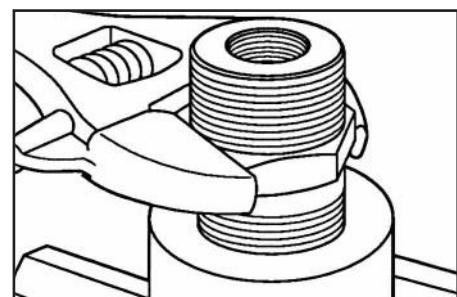

Figure 59
- Remove the suction check valve and the bleeder plug from the fluid cylinder. (Fig. 59 & 60)